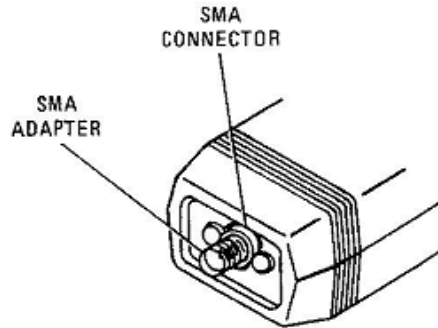

Figure 16. SMA Adapter Location
1. Use a 7/32-inch wrench to remove the old SMA adapter (see Figure 16). Turn the adapter counterclockwise as viewed from the rear end of the probe.